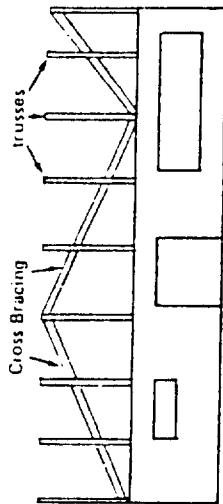

Fig. 4
3. **Cross Bracing:** As shown in figure 4, cross bracing is applied to one or more of the long diagonals within the attic space to prevent dominoing. It is important to start the cross bracing at or near the peak of one gable end and continue across the building to the base of the opposite gable end. 1 x 4's or 2 x 4's should be used for cross bracing.